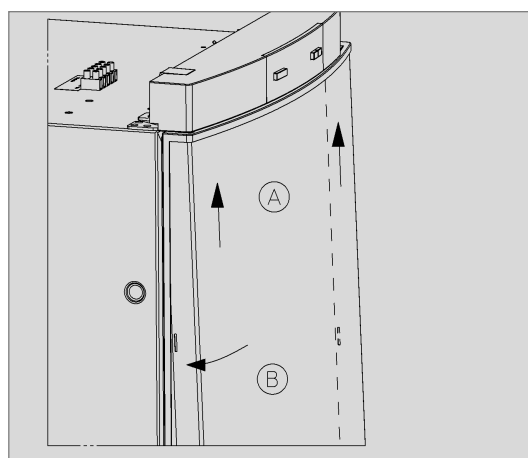

Fig. 41
- The gas connection to the appliance is 1/8"BSP Female (s. figure 41).